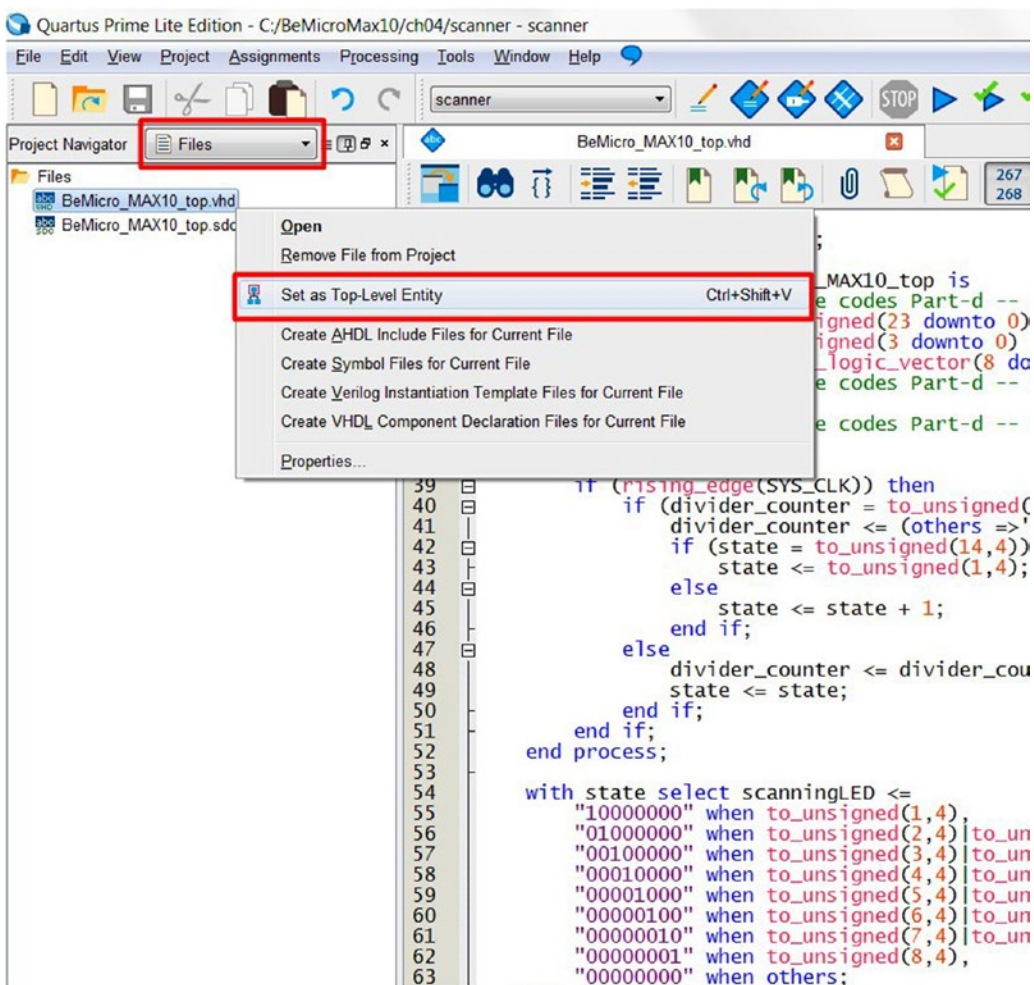

Figure 4-23. Setting top-level entity
2. Right-click the **BeMicro_MAX10_top.vhd** file and click **Set as Top-Level Entity** from the context menu (Figure 4-23). This step is very important to ensure that Quartus Prime picks the right entity (vhd file) as the top-level file. This is because Quartus Prime will start to implement the design from the top-level entity. Sometimes people refer to this as the *top module*—the top of the design hierarchy, where submodules are instantiated and linked together (conceptually similar to the main function in a C program).